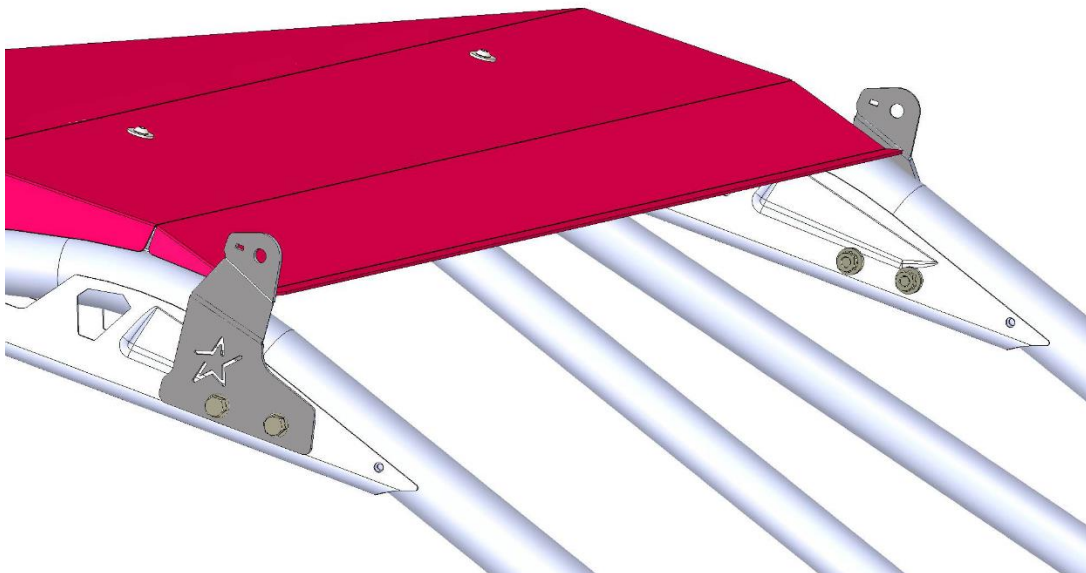

Figure 1-1
1. Attach left and right side brackets onto the roll cage using the M8x1.25x65 bolts with an M8 washer and M8 nylon locknut on the back side. Hand tighten only at this time.(fig 1-1)